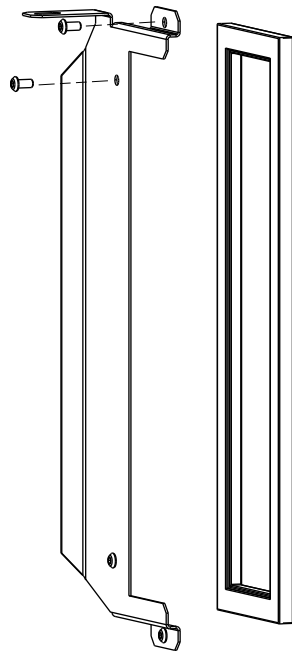

Figure 16.5.
3. Tilt the Side Plate away from the firebox enough to remove only the two **upper** button head screws, #6, from the Screen Bracket, fig. 16.5. There is no need to remove the lower screws.